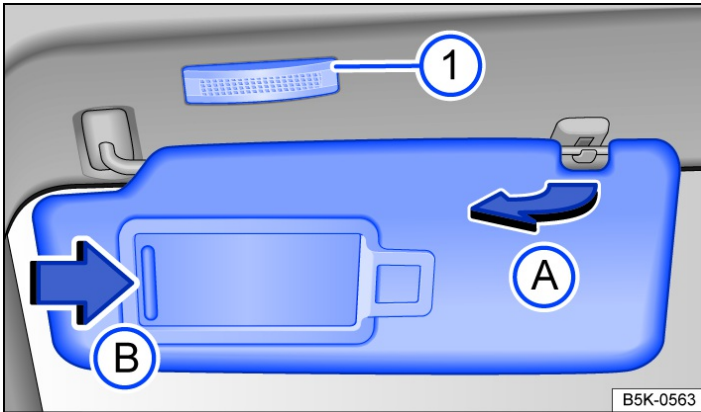

Fig. 1 In the front headliner: sun visor.
- Pulled out of the bracket and swung over towards the door → Fig. 1 (A).